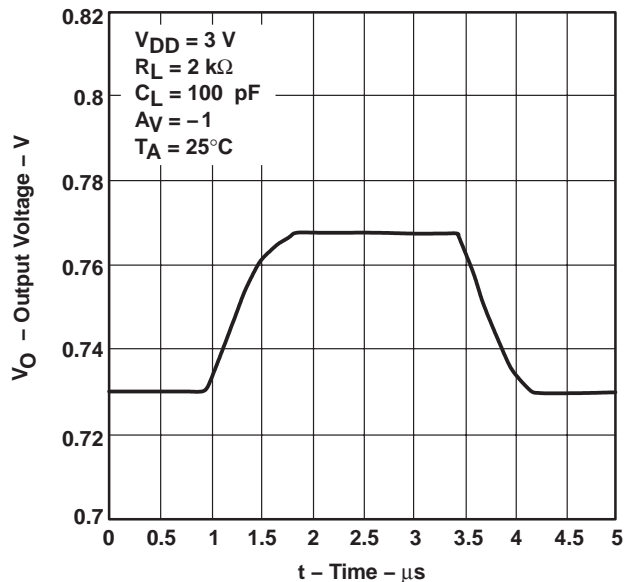

**Figure 39**
- Where the load is referenced. When the load is referenced to either rail, this condition does not occur. The distortion occurs only when the output signal swings through the point where the load is referenced. Figure 39 illustrates two 2-k $\Omega$  load conditions. The first load condition shows the distortion seen for a 2-k $\Omega$  load tied to 2.5 V. The third load condition in Figure 39 shows no distortion for a 2-k $\Omega$  load tied to 0 V.
- Load resistance. As the load resistance increases, the distortion seen on the output decreases. Figure 39 illustrates the difference seen on the output for a 2-k $\Omega$  load and a 100-k $\Omega$  load with both tied to 2.5 V.